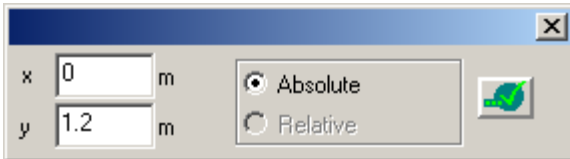

Figure 1.7.6 Floating box to define coordinates of node
- in the dialog box that was displayed when you activated the **Move or add contour node** command (see Fig.1.7.6), define the following parameters: